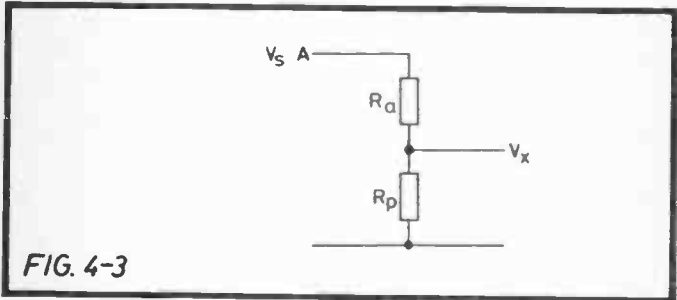

FIG. 4-3
5. The situation is now shown in Fig. 4.3.